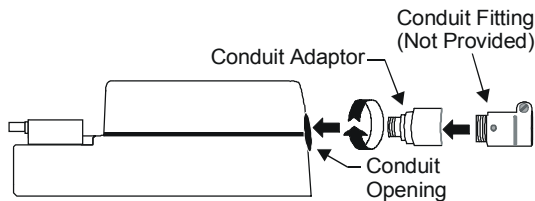

Figure 11: Conduit Adaptor Wiring
3. Insert the conduit adaptor into the conduit opening, and hand tighten by turning in a CW direction as shown in Figure 11.
4. Insert the conduit fitting (not provided) into the adaptor, and hand tighten in a CW direction. (See Figure 11.)